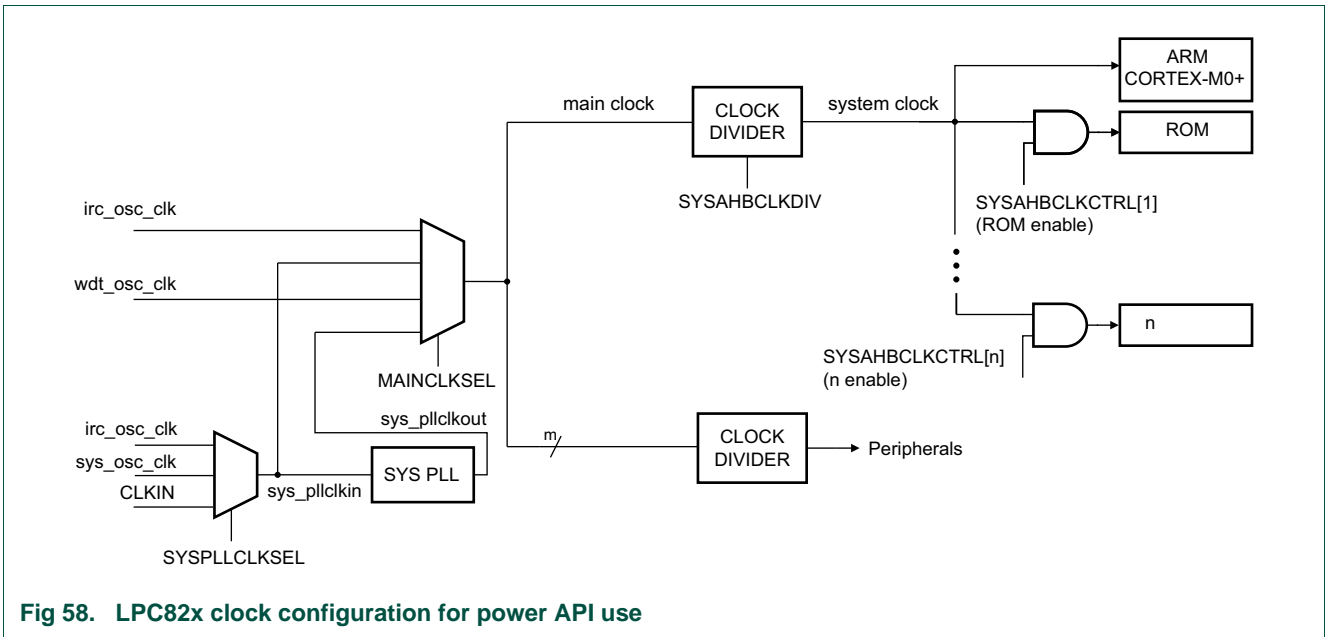

Fig 58. LPC82x clock configuration for power API use
For a simplified clock configuration scheme see Figure 58. For more details see Figure 5.
set\_pll configures a setup in which the system clock does not exceed 30 MHz (see Figure 58). It easily finds a solution when the ratio between the expected system clock and the system PLL input frequency is an integer value, but it can also find solutions in other cases.
**Remark:** Use the `set_power` routine with `SYSAHBCLKDIV = 1` (System clock divider register, see Table 34 and Figure 58).